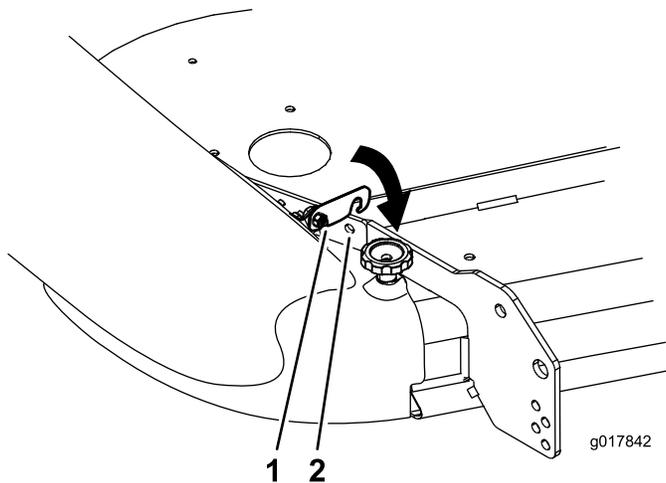

Figure 26
- Rotate the latch until it hooks into the hole in the mower deck stiffener (Figure 26).